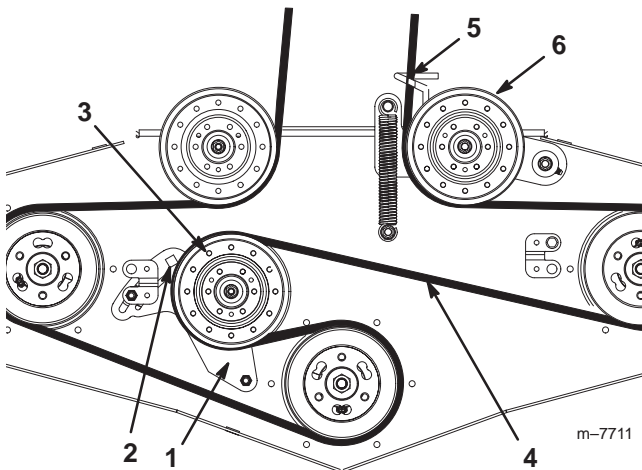

Figure 56
4. Loosen the fixed idler arm and adjust it to relieve the belt tension on the fixed idler pulley (Fig. 56).
6. Install the new belt through the belt guide and on the pulleys (Fig. 56).